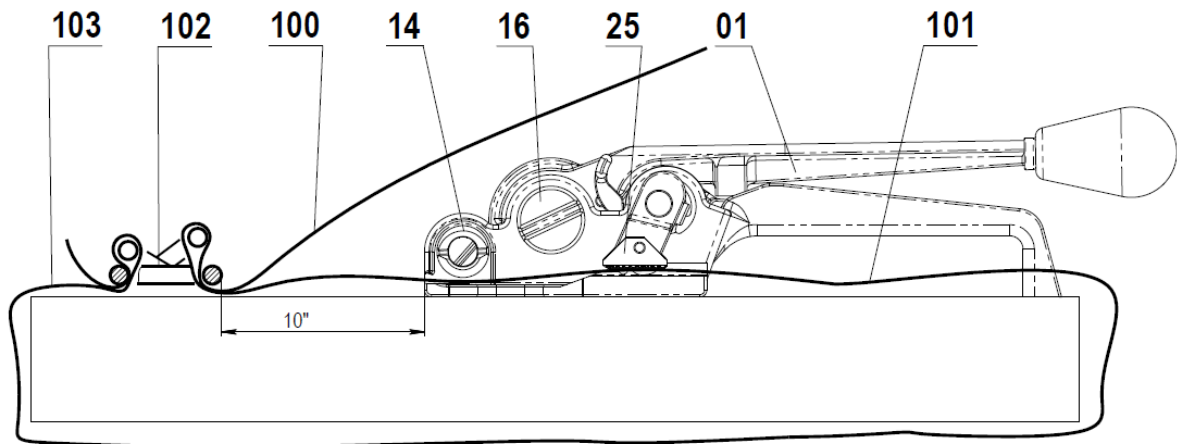

Fig. 2
1. Wrap the strap around the package. Load one end of the strap into the **Buckle 100**. Load the other **End 102** into **Buckle 100**. Manually, take out the excess strap by pulling on **End 102**. Place the **MUL-375** approximately 10" out of the **Buckle 100** as shown on Fig. 2.